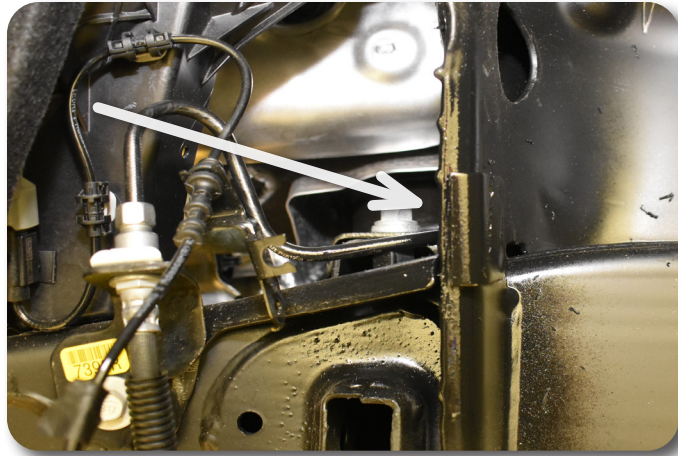

Figure 9
12. Cut the factory droop limiter from the side of the strut bucket as shown in **Figure 9**.